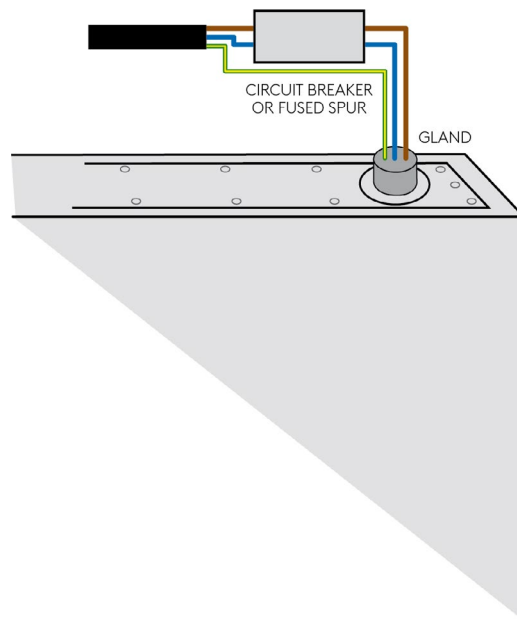

Figure 2. Mains Supply Feed.
2. Wire the mains supply feed. See *Figure 2*.